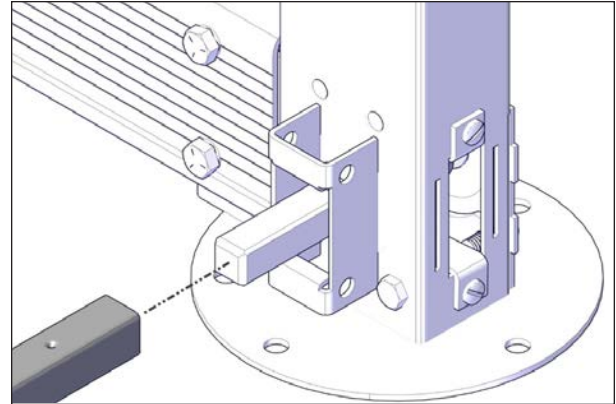

FIGURE 39: DRIVE SHAFT INSTALLATION
8. Slide the drive shaft over the square shaft located at the bottom of the left motor-side jack assembly see Figure 39.